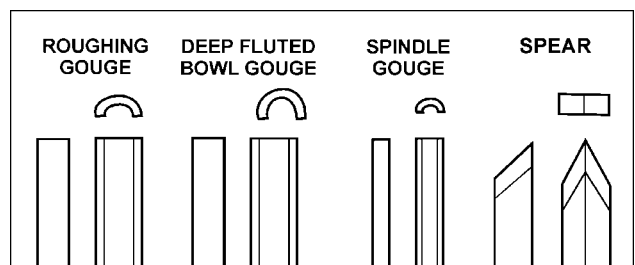

Fig. 10
**Roughing Gouge** - used for rapidly cut raw wood into round stock, see Figure 10.
**Deep Fluted Bowl Gouge** - used for turning bowls and plates, see Figure 10.
**Spindle Gouge** - used for turning beads, coves and other details, see Figure 10.
**Spear** - fine scraping and delicate operations, such as the forming of beads, parallel grooves and shallow vees, etc, see Figure 10.